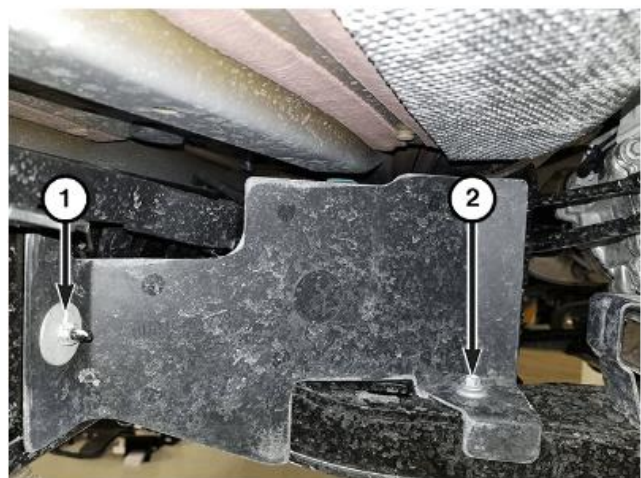

Figure 1 – Fuel Line Deflector
12. Remove the front fuel line deflector nut and bolt and remove the front fuel tank deflector (Figure 1).
38. Install the front fuel line deflector nut and bolt and remove the front fuel tank deflector (Figure 1).